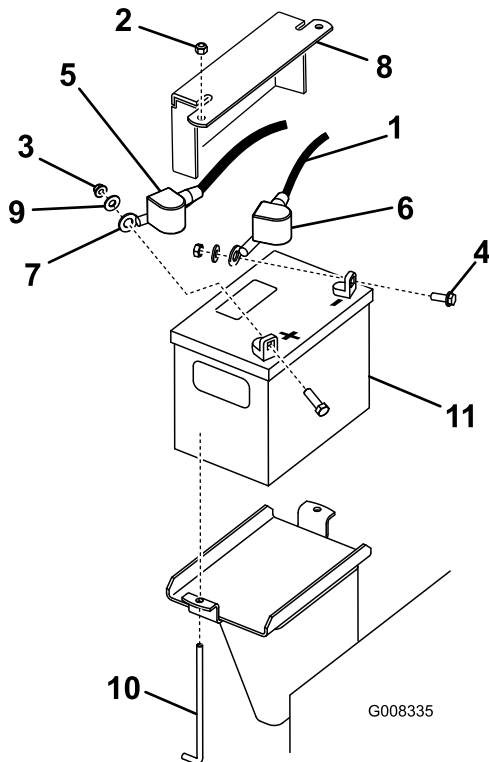

Figure 43
3. Lift the black rubber cover on the negative cable. Disconnect the negative battery cable from the negative (-) battery terminal (Figure 43).
4. Slide the red terminal boot off the positive (red) battery terminal. Then remove the positive (red) battery cable (Figure 43).
5. Remove the hold-down plate, J-bolts, and locknuts securing the battery (Figure 43). Remove the battery.
1. Using the fasteners previously removed, install the positive (red) battery cable to the positive (+) battery terminal (Figure 43).
3. Using the fasteners previously removed, install the negative (black) battery cable to the negative (-) battery terminal (Figure 43).
4. Secure the battery using the bar and wing nuts (Figure 43).